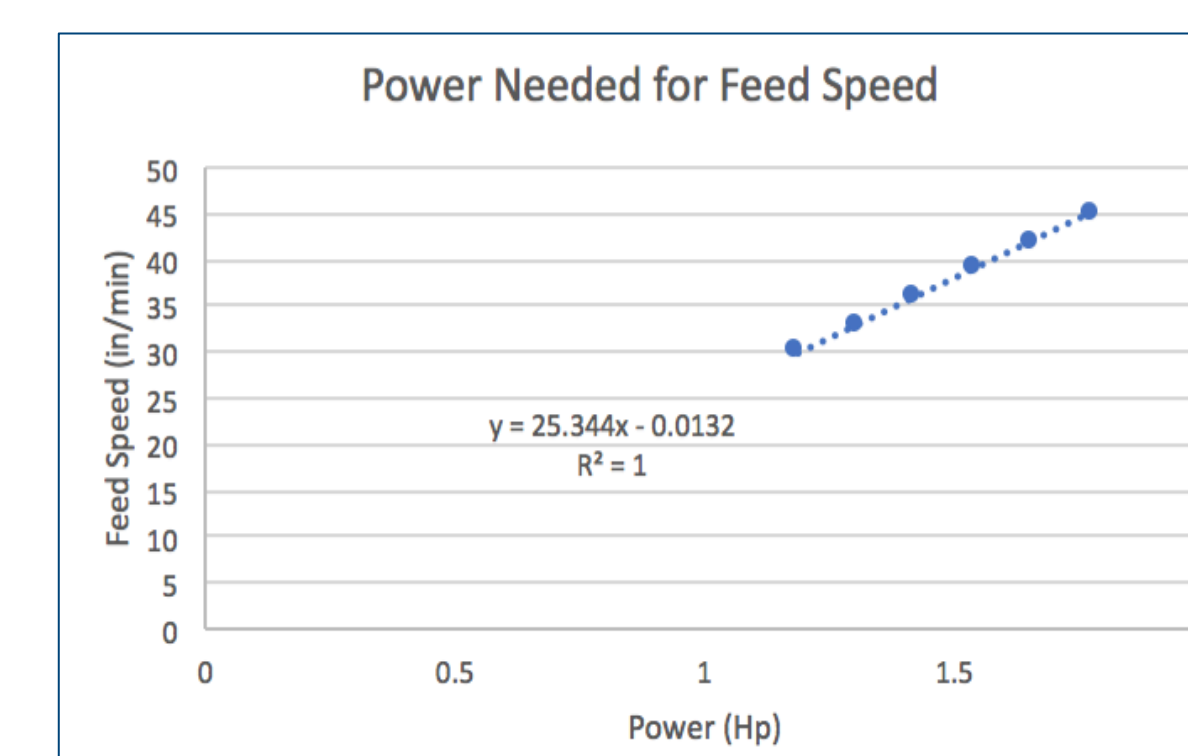

Figure 6: Power required for feed speeds
- Results can be seen below in Figure 6 and Table 3.